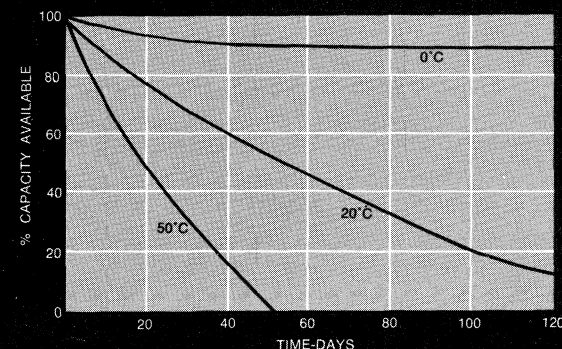

Fig. 5 Typical self-discharge curves.
**CHARGE RETENTION** — Charge retention is defined as the ability of a battery to hold its energy once it has been charged. Loss in energy due to self-discharge is accelerated at high temperatures as shown in Figure 5. Self-discharge does not adversely affect battery life.